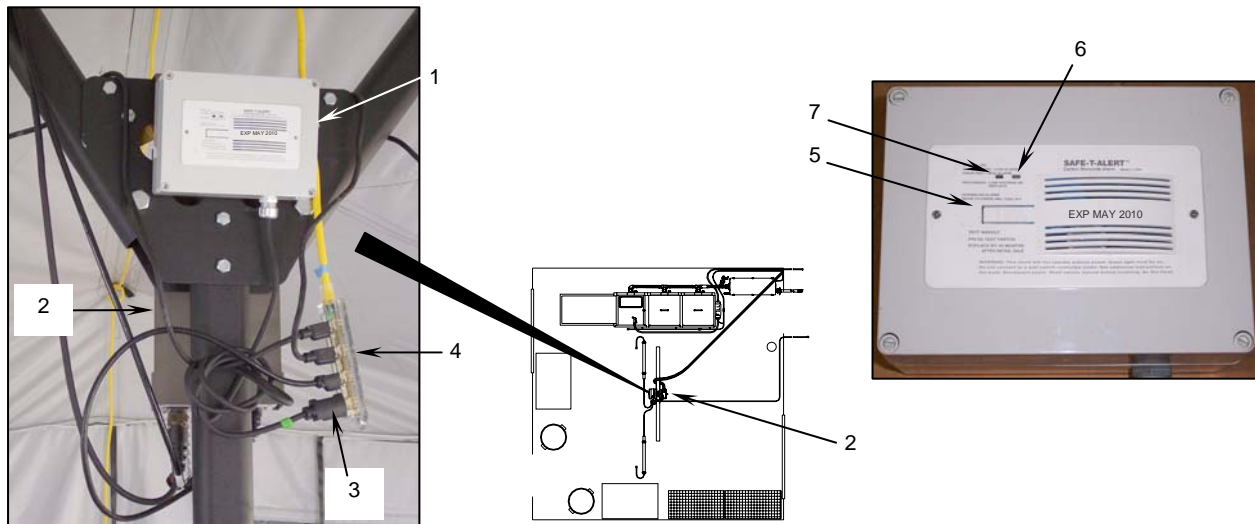

Figure 2. Installing and Testing the CO Monitor.
5. Install the carbon monoxide (CO) monitor as follows:
- a. Hang the CO monitor (**Figure 2, Item 1**) from the center pole of the tent opposite the power converter (**Figure 2, Item 2**).
- b. Plug the CO monitor power cord (**Figure 2, Item 3**) into an outlet on the end of the 100-ft extension cord (**Figure 2, Item 4**).
- c. Test the CO monitor by pressing the TEST/RESET (**Figure 2, Item 5**) button. The indicator light (**Figure 2, Item 6**) should change from green to red (**Figure 2, Item 7**) and the alarm horn (**Figure 2, Item 7**) should sound. If the test fails, troubleshoot or replace the alarm.